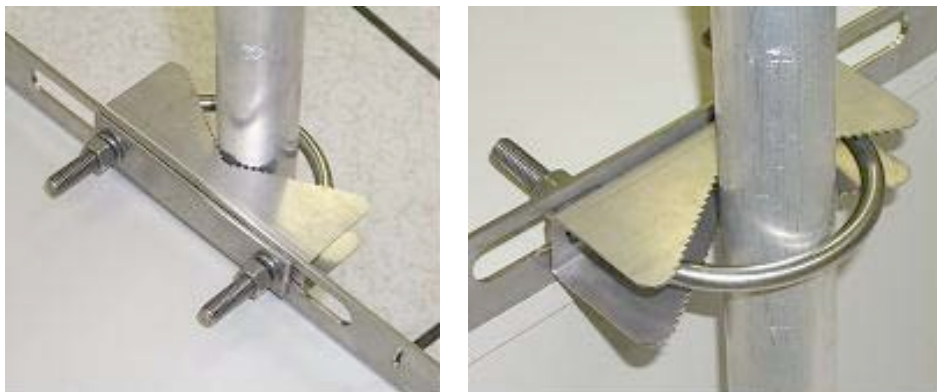

Figure 30: CMM4 V-bracket to pole mounting
- a. attach the V-bracket to the pole as shown in Figure 30.